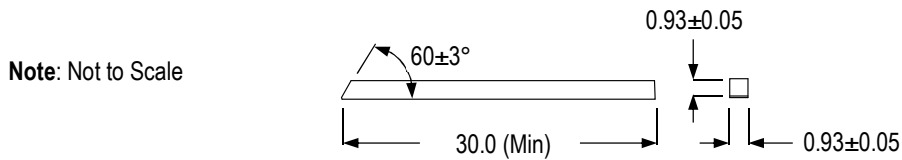

Figure 7
- Using extraction tool 1-1579007-2 for the 2.8-mm contacts and customer-supplied extraction tool with the dimensions given in Figure 7 for the 0.64-mm contacts, insert the tip(s) into the contact cavity of the contact to be removed until it stops.